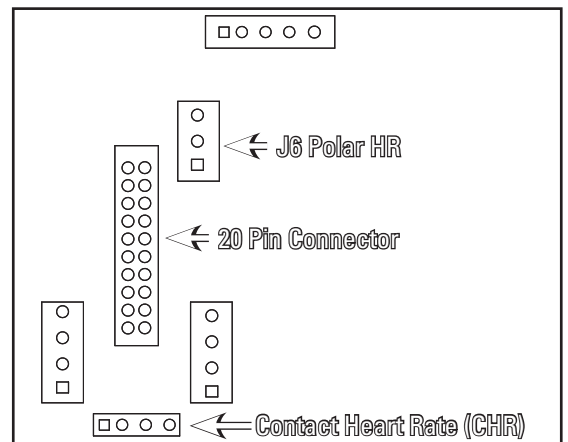

Figure 20
**11-1** Grasp the SC916 console and connect the CHR cable from the upper mast weldment to P3 on the PC board (see Figure 20).
**11-2** Connect the telemetry Heart Rate cable from the mast to J6 (Polar HR) connector on the PC board (see Figure 20).
**11-3** Connect the Main cable from the mast to the 20-pin connector on the PC board (see Figures 20).